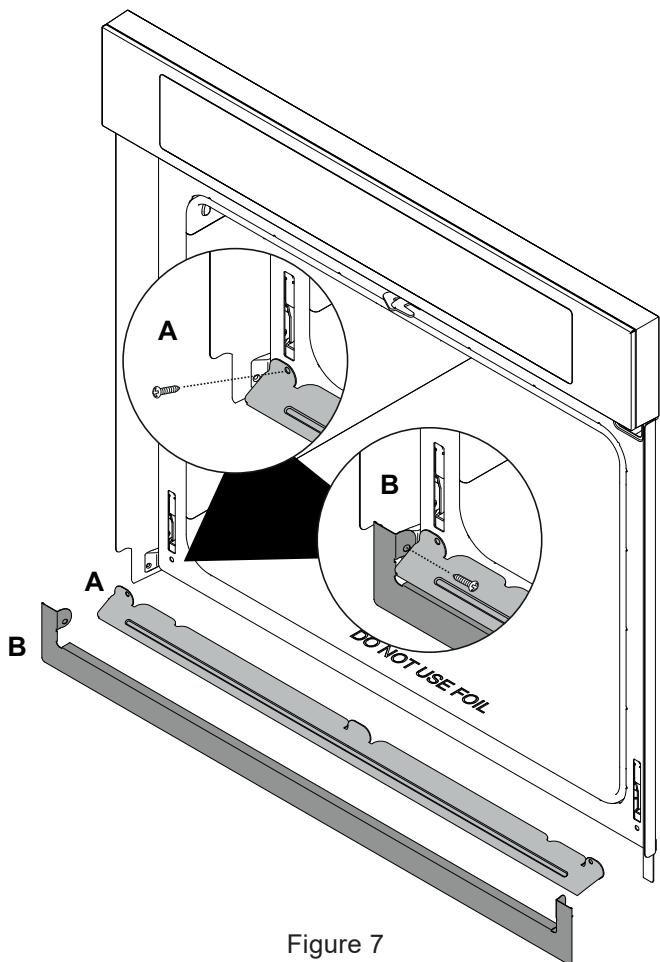

Figure 7
- A. Place the air diverter (A) in place as shown in Figure 7. Line up screw locations and attach both ends.
- B. Place the color matched trim (B) in place as shown. Line up screw locations and attach both ends.